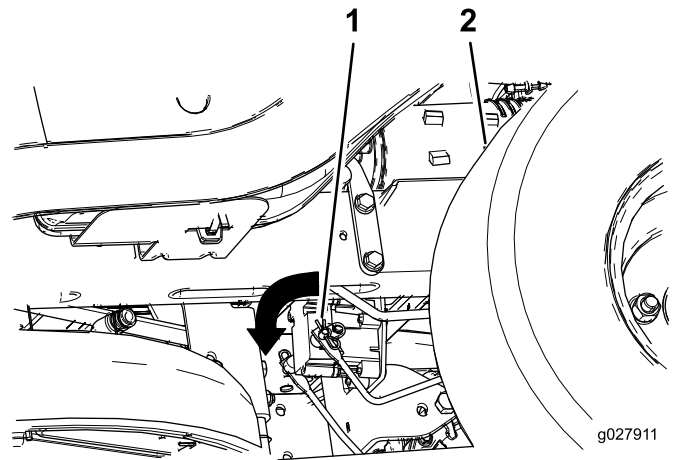

Figure 52
2. Locate the shaft on the electric brake where the brake link arms are connected (Figure 52).